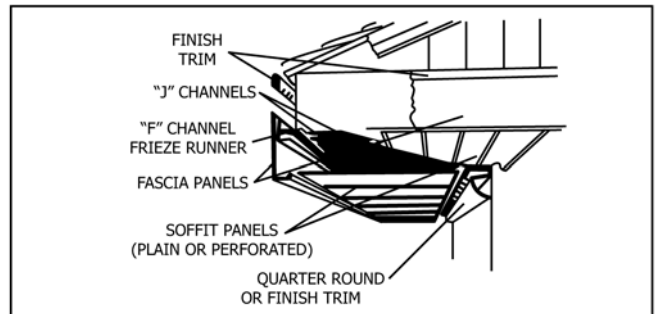

FIG. 30 Application of Soffit and Fascia
11. Application of Soffits and Fascia (See Fig. 30)